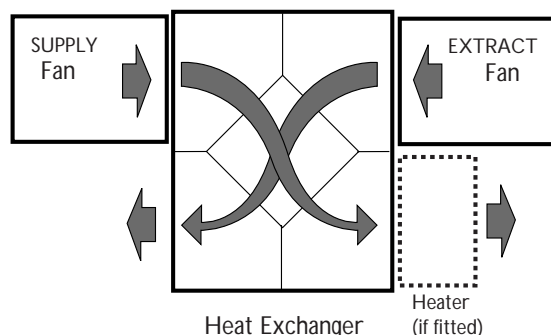
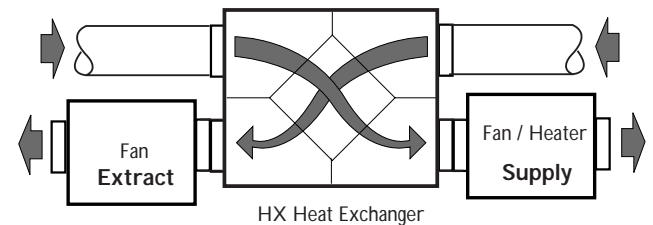

Fig. 2 System application diagram.
Fig. 3 Fan/heater with HX
Note that when a heater module is used in the system it must be positioned after the HX on the SUPPLY side (fig.2)
**If the fan has an integral heater** the fan/heater must be positioned after the HX on the SUPPLY side (Fig.3)
Note: when the unit is installed into a system, the correct orientation must be observed as indicated by direction labels on the side of the unit case (see also fig.2 & fig.3)